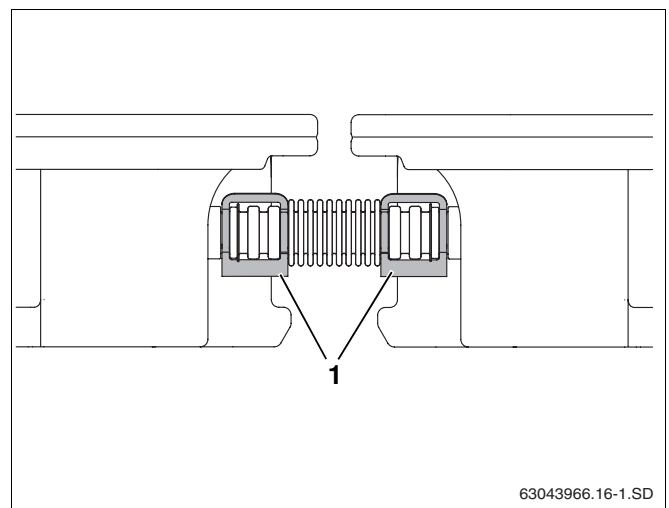

Fig. 50 Corrugated pipe connector secured with brackets
- Secure each end cap with one bracket and each corrugated pipe connector with two brackets (Fig. 50, **Item 1**).